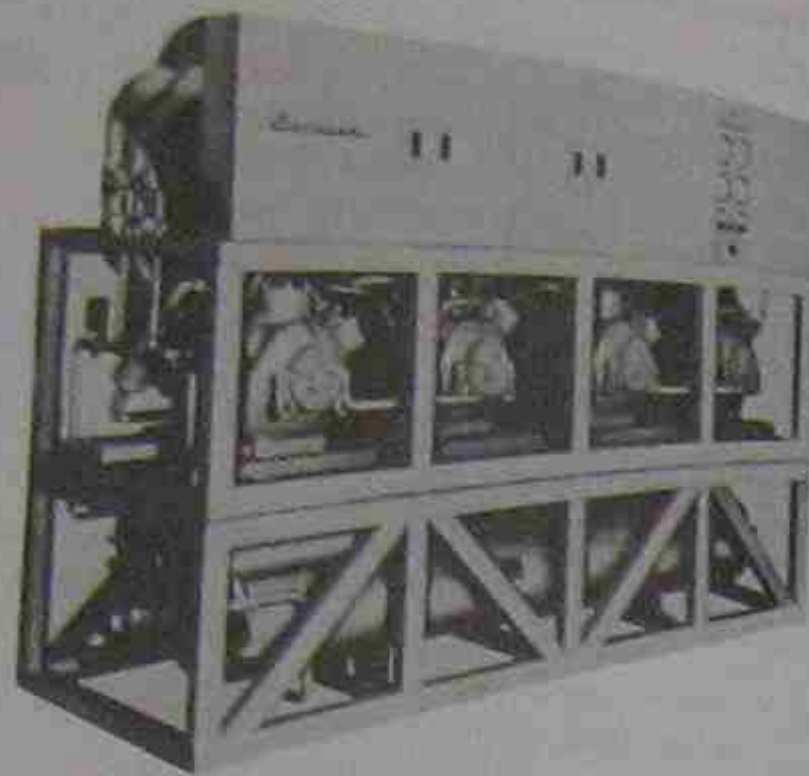
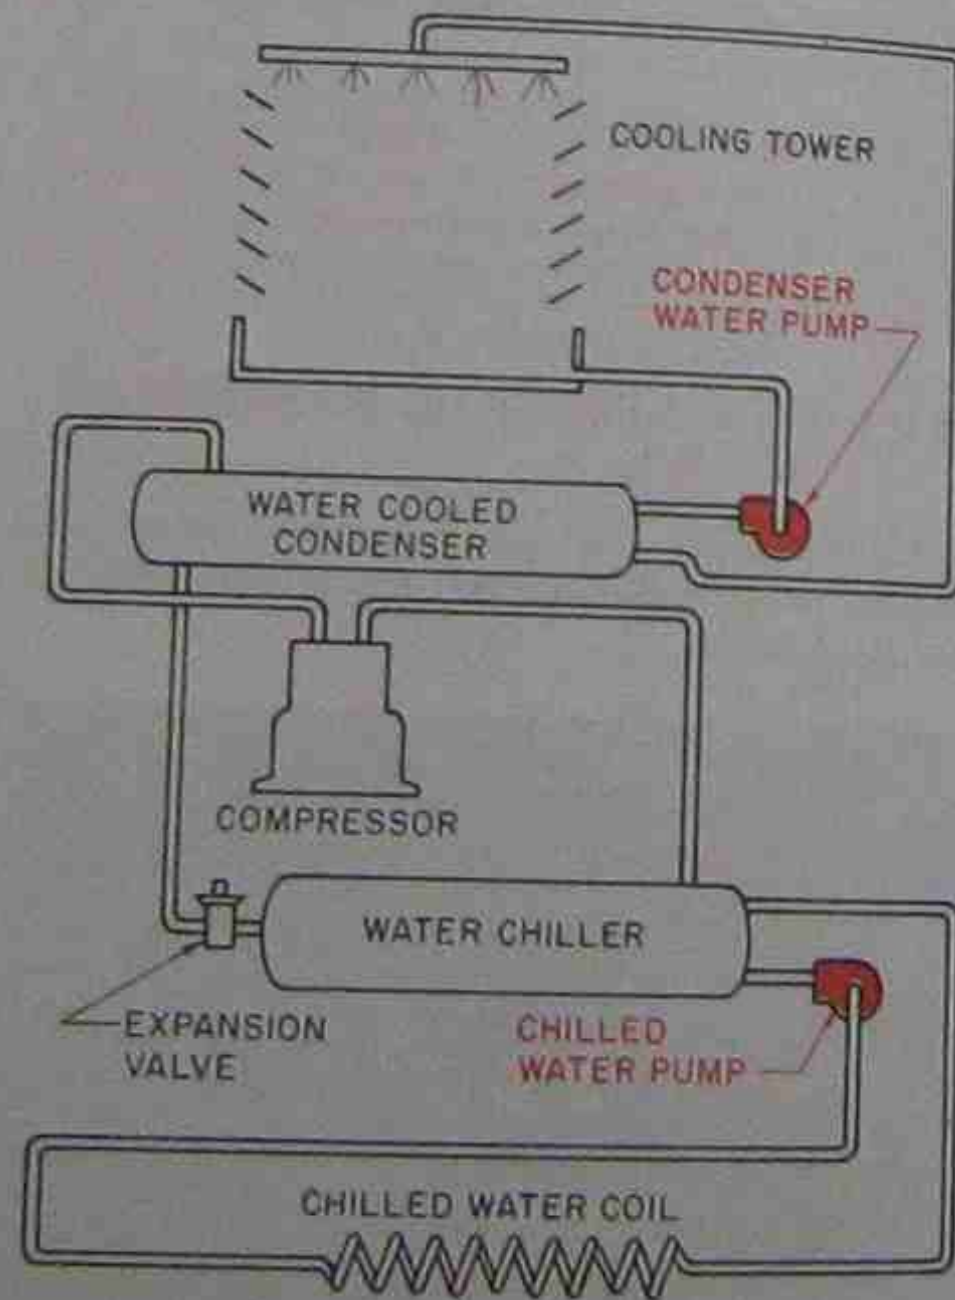

Figure 40-15. Water-to-water package unit. *Reproduced courtesy of Carrier Corporation*
Figure 40-16. The total water-to-water system must have two pumps to move the water in addition to the fans to cool or heat the water.
3. Water to water describes the equipment in Figure 40-15. It has two water heat exchangers and is used in large commercial systems. The water is cooled and then circulated through the building to absorb the structure's heat, Figure 40-16. This system uses two pumps and two water circuits in addition to the fans to circulate the air in the conditioned space. To properly maintain this system, you need experience servicing pumps and water circuits.